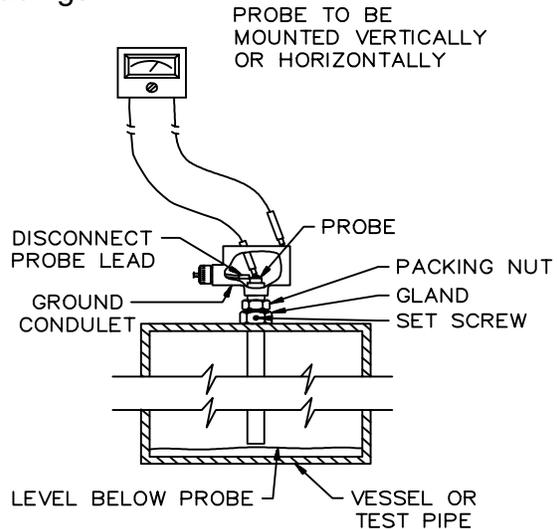

Figure 5-2
- A. With an analog ohmmeter*, check the resistance of the probe-to-ground with level below the probe. See Figure 5-2.